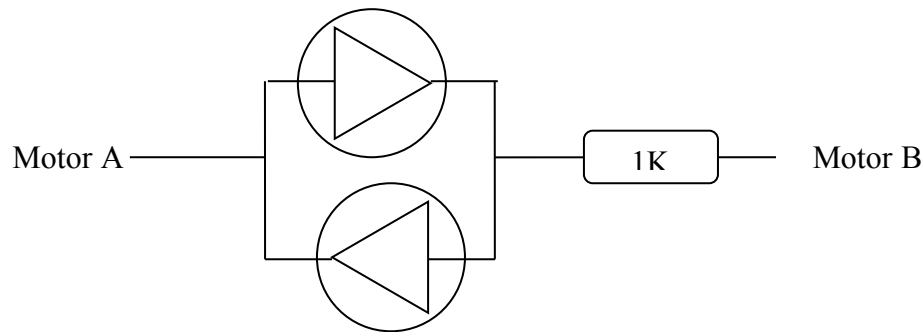

Figure 4. Schematic of a LED motor.
**1.** In the first part of the lab, you will build a so called, LED Motor! A LED motor is simply composed of two LEDs and a 1K resistor. It is good practice if you solder one and keep it handy for DC motor applications. Figure 4 illustrates the schematic of a LED motor.